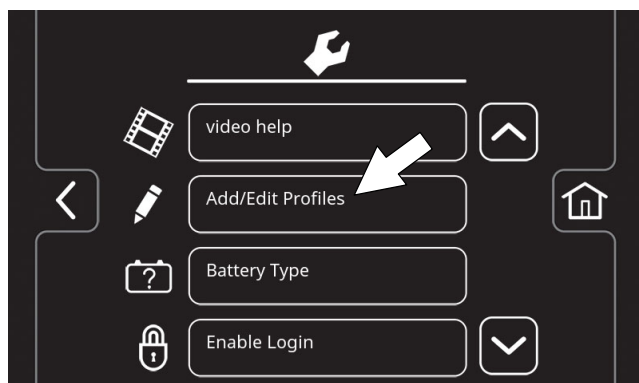

FIG. 189
2. Press the Add/Edit Profiles button (Figure 189).